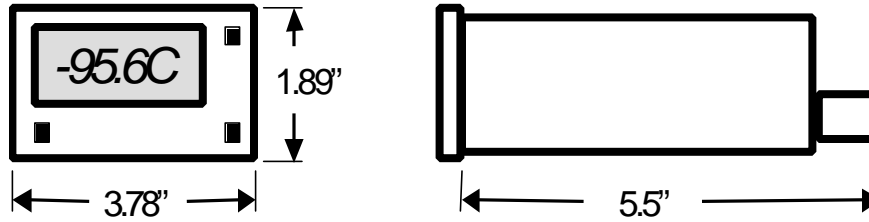

Figure 3. Case Dimensions
| FIGURE 3. CASE DIMENSIONS                        | 11 |
**NOTE:** A minimum depth behind the panel of 5.5" is required for the monitor, its connectors and wiring (see Figure 3. Case Dimensions).